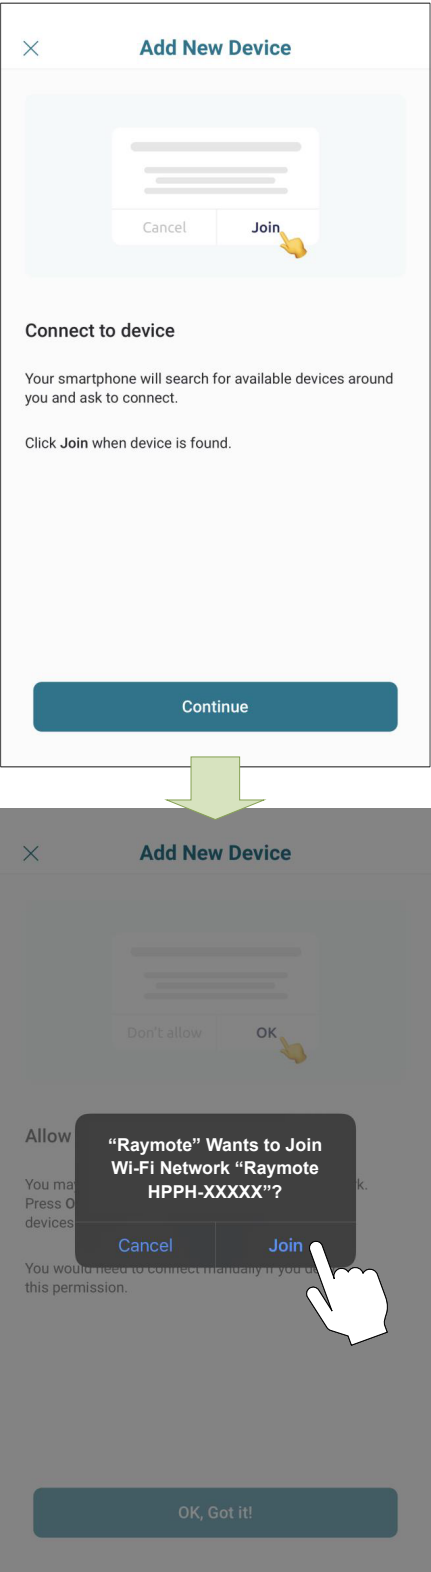

Figure 85. Connecting with iPhone
4. In iPhone: Raymote app will start to scan nearby heaters. If you have multiple units ready to connect, stand closer to the unit you want to connect first. Press "Join" to select the displayed heater that matches the HOTSPOT identifier, or press "Cancel" to start the process again. See **Figure 85**.